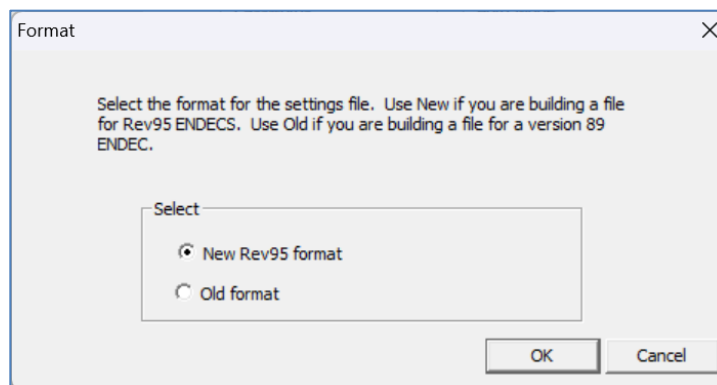

Figure 1.
- 1.3 EndecSetD 2.56 will work with legacy Endec firmware versions 89.27 and older but is intended for Rev95.0. If you are creating a new settings file, or editing an existing file for 89.x units, when saving the file, the program will ask if it is to be saved as the new format or old format, as shown in Figure 1.